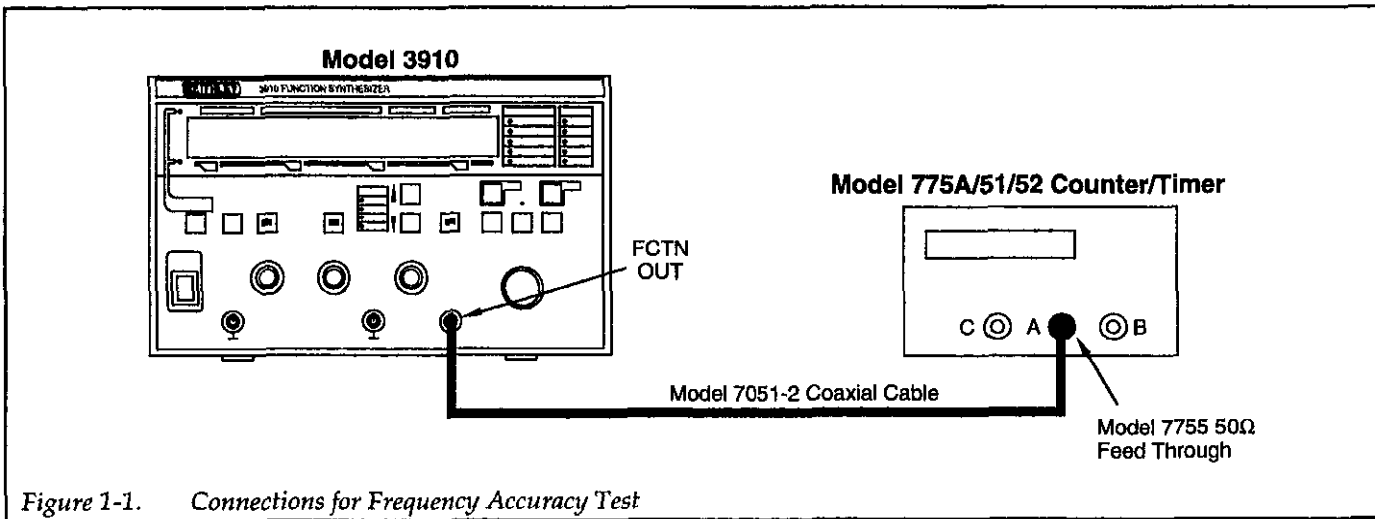

Figure 1-1. Connections for Frequency Accuracy Test
1. Connect the Model 3910 FCTN OUT jack to input A of the counter/timer, as shown in Figure 1-1. Be sure to use the 50 $\Omega$  feed through.
1. Connect the Model 3910 FCTN OUT jack to the Model 197A DMM, as shown in Figure 1-1. Do not use the 50Ω termination for this test.